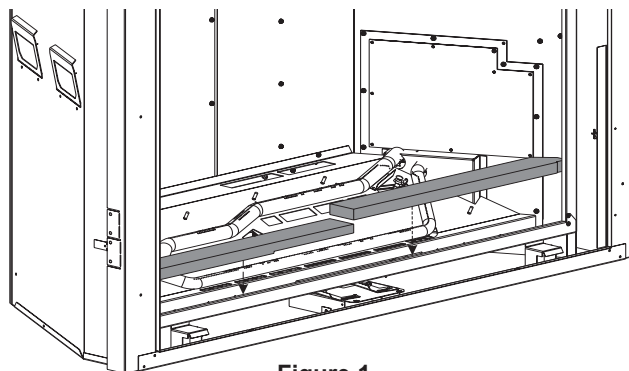

Figure 1
2. Place the RIGHT and LEFT FRONT LINER as shown in **Figure 1**.